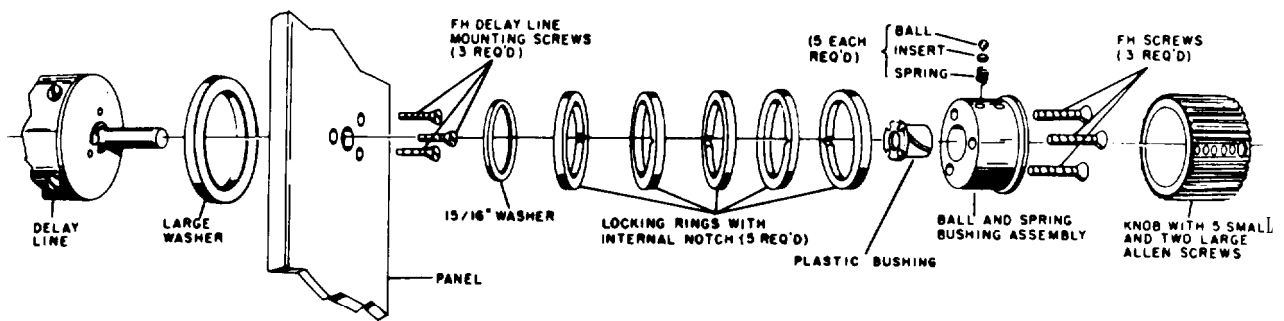

Figure 5-4. Delay Line Knob Detent Mechanism
- Step 1. Loosen but do not remove the two large and the five small Allen set-screws on the SUB PULSE POS knob (figure 5-4). Pull the knob from the shaft.
- Step 4. Snap off the first of the five locking rings from the ball-and-spring bushing as shown in figure 5-4. Take care not to lose balls, plastic inserts, or springs. Remove remaining four locking rings in a similar manner.
- Step 2. If the detent assembly has been disassembled, refer to figure 5-4 and replace parts in the following manner: insert five sets of springs and plastic inserts into five holes provided on the ball-and-spring bushing assembly. Place a ball in the hole nearest the end of the ball-and-spring bushing assembly with three countersunk screw holes, and press locking ring onto bushing so that notch on inner surface engages the ball. Replace the remaining balls in the same manner. It is important that notches on inner surface of locking rings engage their associated balls.